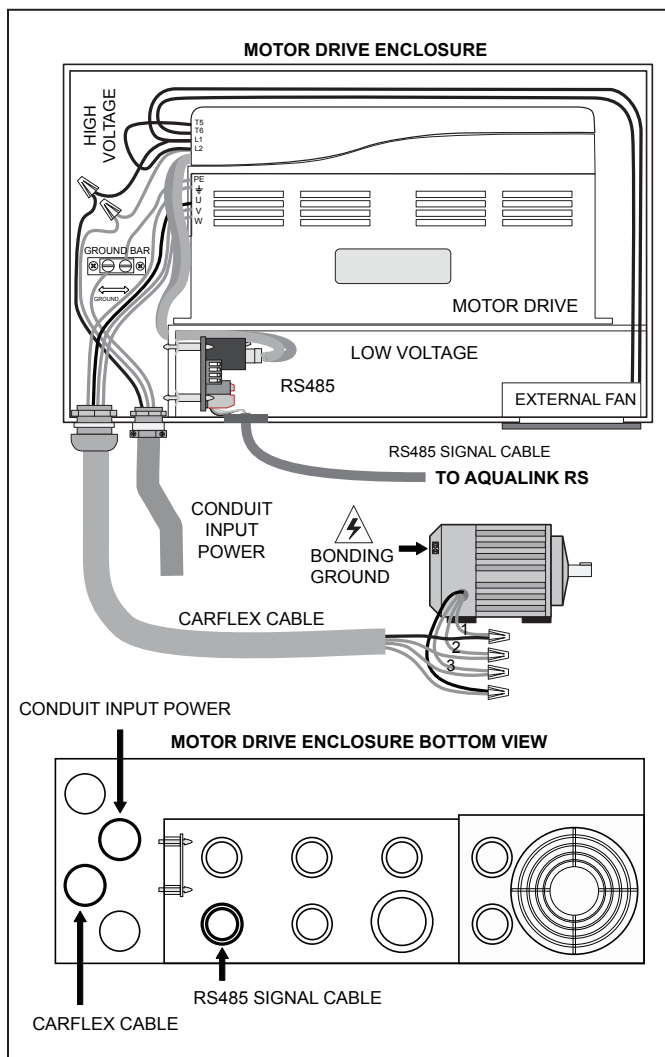

Figure 10. Wiring of the Jandy ePump™ AC Variable Speed Pump to the Enclosure
8. Connect the red and black wires (L1 and L2) of the motor drive to the two load side connections on the filter pump relay as shown in Figure 10. If the pump is not to be used for filtration then you would connect the red and black wires to the load side connections of an AUX relay.
9. Connect the black (U), red (V), blue (w), and green wires from the motor drive to the pump motor.